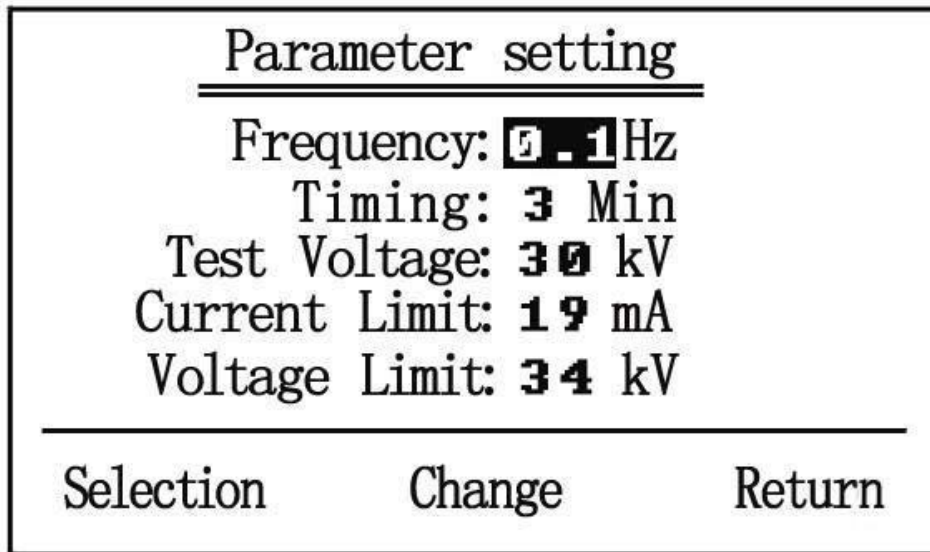

Figure 5 (Limit setting interface)
After completing the wiring of all the circuits in the method motioned above, the power switch can be put on. The instrument will automatically enter into the limit setting interface as shown in figure 5 when the microcomputer is electrified and reset. The power shall be shut-down on wiring, removal of lines
On limit setting interface as shown in figure 5, the user can set output frequency, test time and voltage, overcurrent protection value on high-voltage side and overvoltage protection value according to test requirement. The modification methods are as follows:
(B) Click “Setting” key, the instrument will return to set limit sub-interface as shown in figure 5 to re-modify parameter.